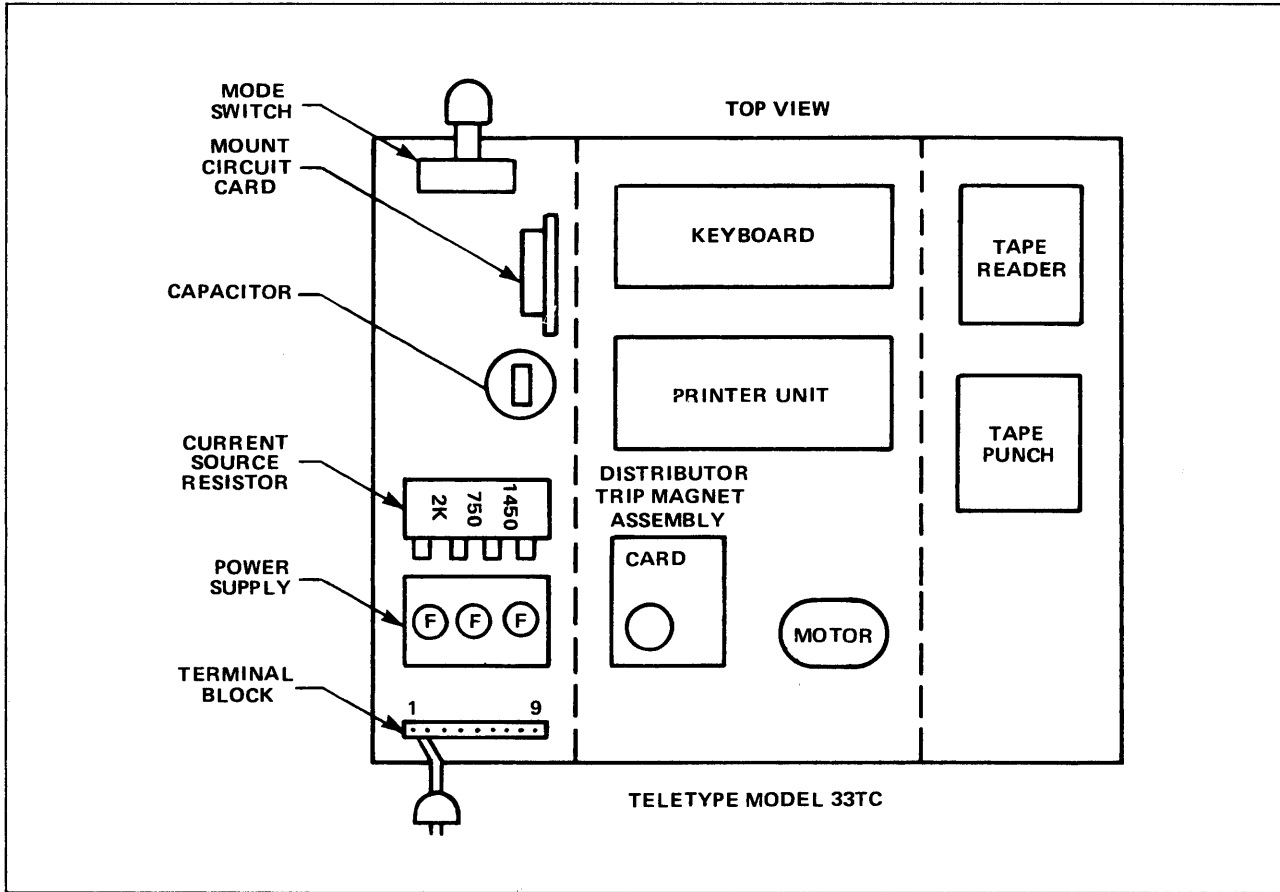

Figure D-1. Teletype Component Layout
1. Remove blue lead from 750-ohm tap on current source register; reconnect this lead to 1450-ohm tap. (Refer to figures D-1 and D-2.)
2. On terminal block, change two wires as follows to create an internal full-duplex loop (refer to figures D-1 and D-3):